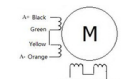
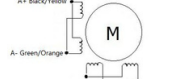

Fig.4-3 Series wiring of 8-wires motor
Fig.4-4 Parallel wiring of 8-wires motor
For 4-wires and 8-wires stepper motor connecting, please refer following pictures. As for 8-wires, there are 2 kind of class to connect it, and the performance is different. (1)Parallel wiring will decrease the inductance of winding, suitable for high speed running. But it's requires bigger current to reach the target torque. (2)Series wiring will increase the inductance of winding, it's suitable for low speed running, requires the smaller current to reach target torque as following fig4-3 and fig4-4.